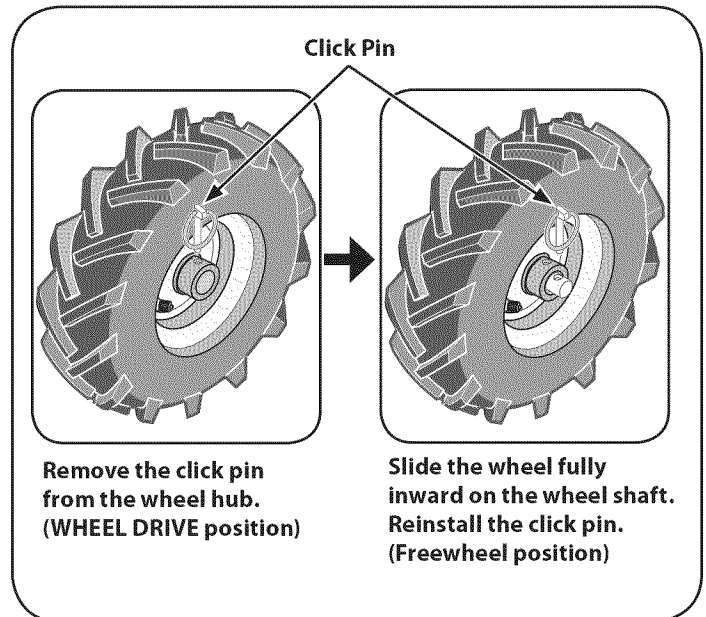

Figure 5
1. Place a sturdy block under the transmission to raise one wheel about 1" off the ground. Remove the click pin from the wheel hub and wheel shaft. See Figure 5.
2. Slide the wheel fully inward on the wheel shaft. Reinstall the click pin through the wheel shaft only (not through the wheel hub). See Figure 5. The wheel should now spin freely (freewheel) on the wheel shaft. Repeat with the other wheel.